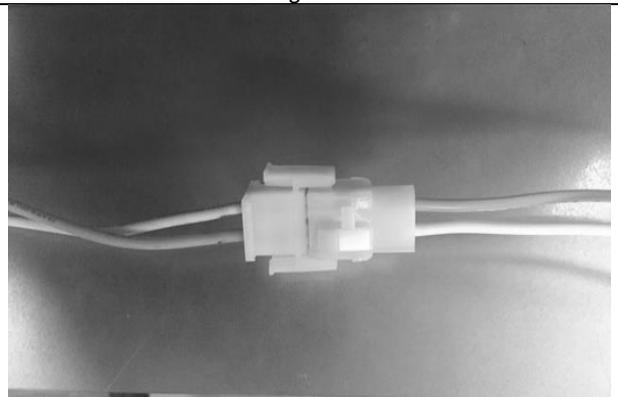

Figure 9
- In the wire chase check for the white and orange wires coming from the relay module. Connect the new heater wires to the power wires. As seen in Figure 9.